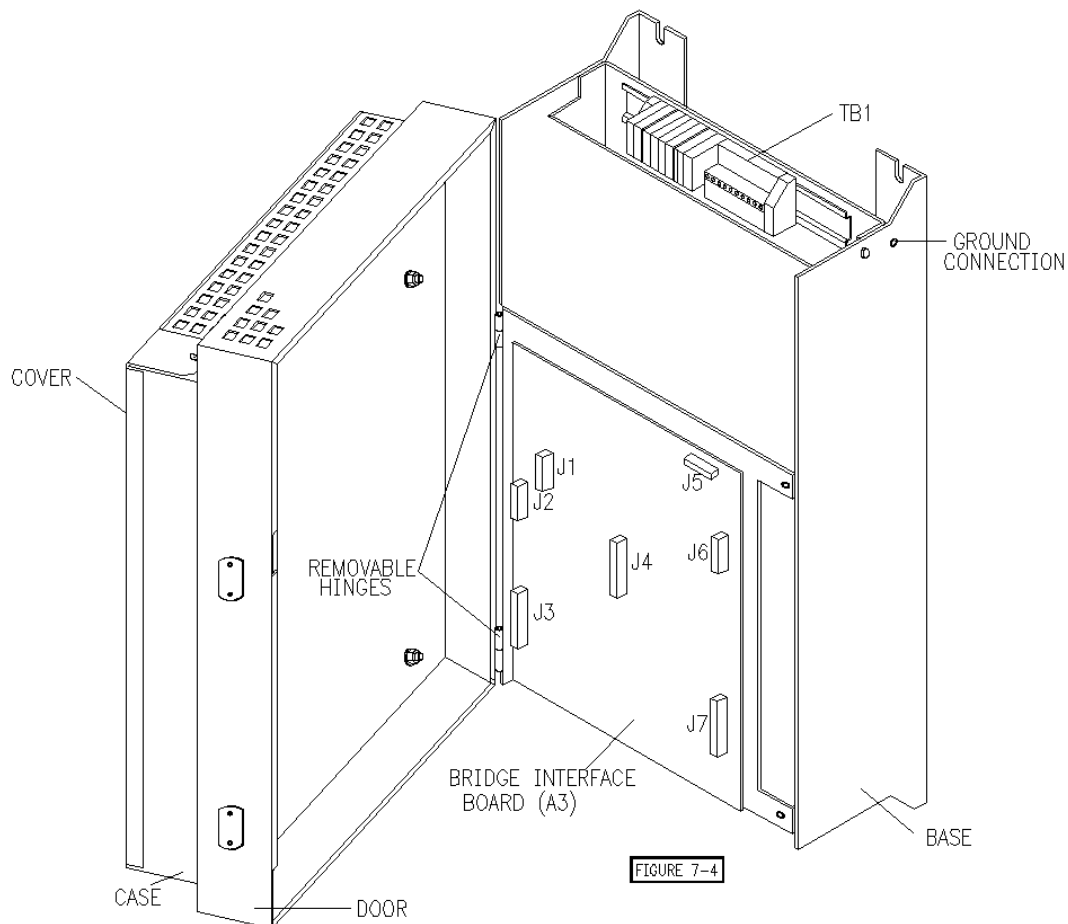

Figure 7-4. Replacing Bridge Interface Board
7.3.4 REPLACING BRIDGE INTERFACE BOARD (A3) (540, 850, 1550, and 3000 ADC) (Refer to Figure 7-4.)